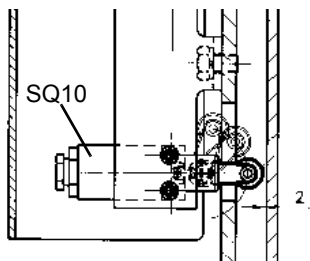

Figure 2
- In the telescope in position, check that there is 2 mm between the contact lever and the telescope tube as shown in figure 2.